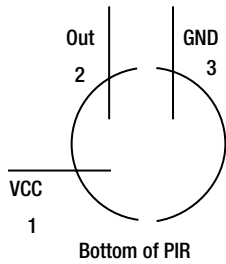

Figure 5-14. The pin outs of the AMN31111
6. Then place the PIR sensor on a small breadboard and extend the GPIO wire and the two power rails to the PIR. Make sure you get the pins correct on the PIR. Check your data sheet for how you should connect your sensor. In the case of the Panasonic AMN31111 you can see the pin outs in Figure 5-14.